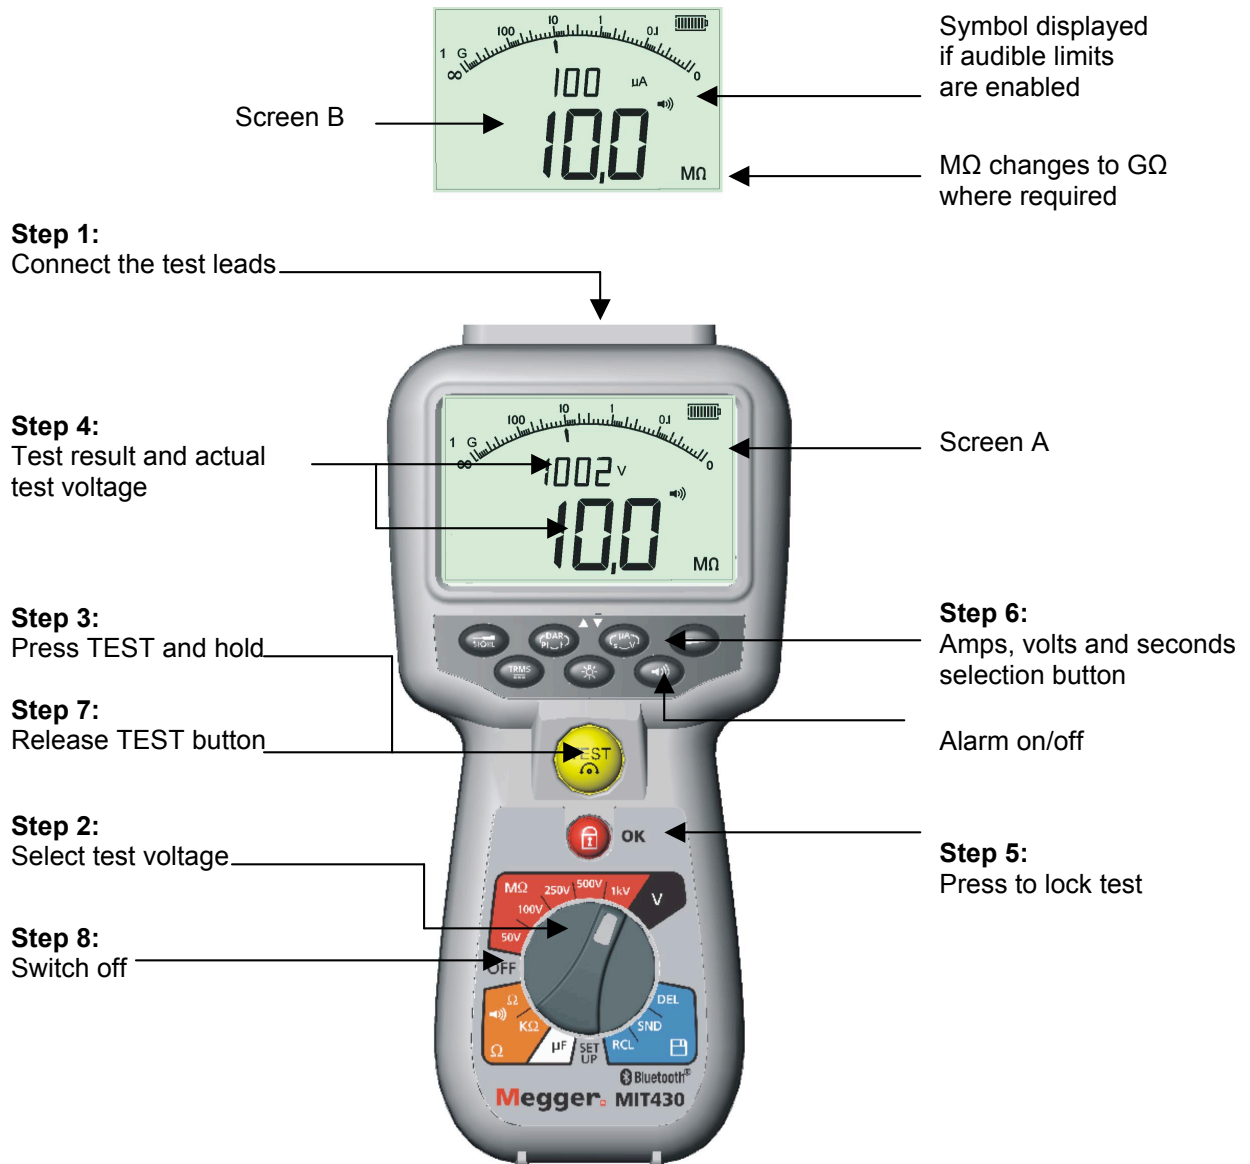

Figure 6 Standard mode insulation test
9.1 Standard insulation resistance testing (Refer to Figure 6)
4. The insulation resistance value, in both analogue and digital form is displayed together with the actual test voltage displayed on the secondary display (see Screen A of figure 6).